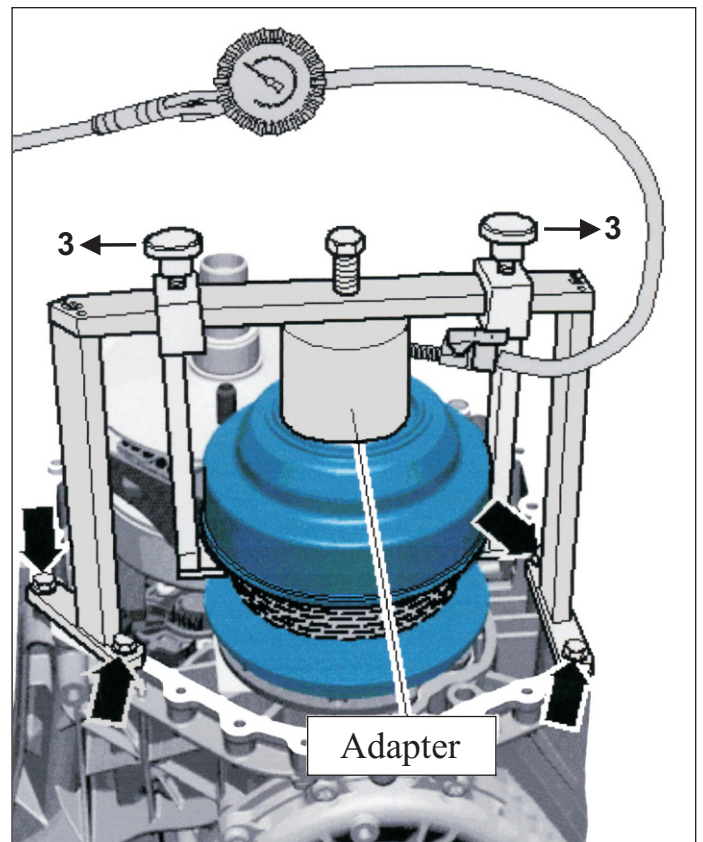

Figure 15
5. Loosen the knurled screws and slide the arresters out of position (3) as seen in figure 15.